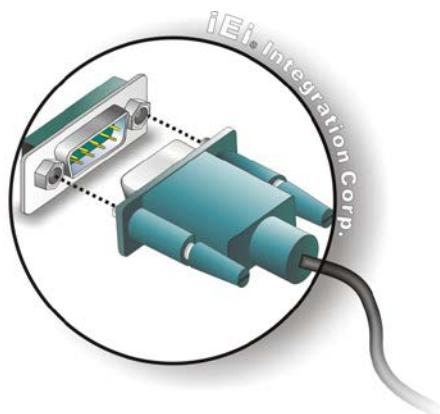

Figure 3-7: DB-9 Serial Port Connector
Step 2: Insert the serial connector. Insert the DB-9 connector of a serial device into the DB-9 connector on the bottom panel. See **Figure 3-7**.